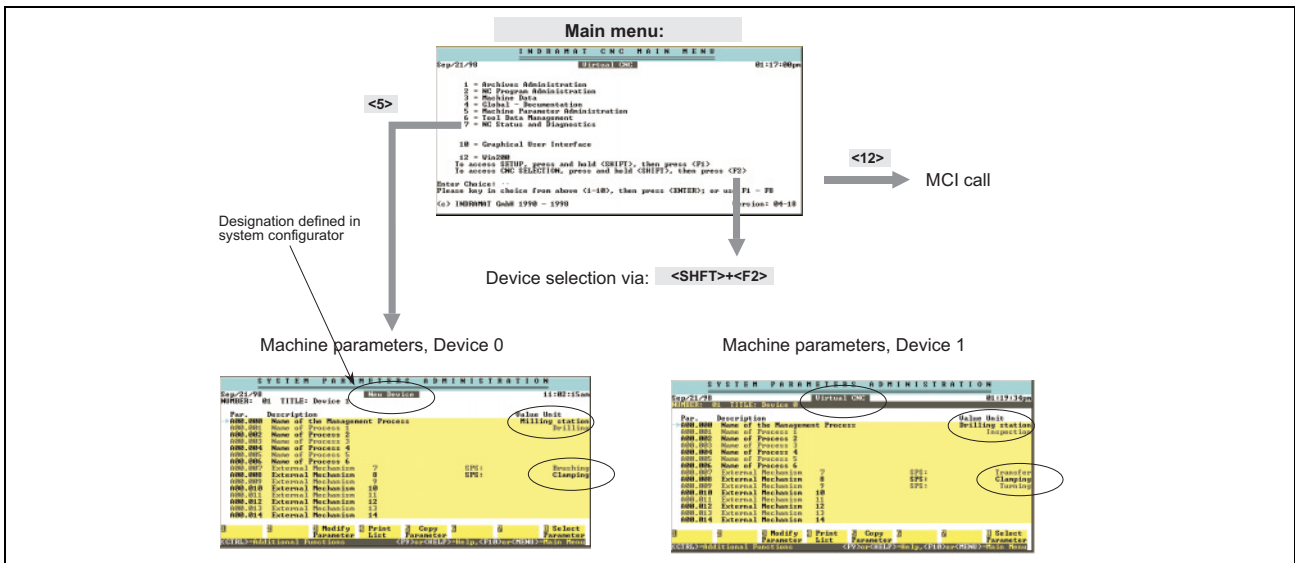

Fig. 1-3: Definition of the machine parameters
To complete configuration of the 'Machine system' example, the machine parameters must be defined (Fig. 1-3 shows only the designations of the processes and the external mechanisms):
**Starting from the main menu** The MCI can be launched from the main menu of the MUI (see Fig. 1-3) by selecting 'Menu item 12'. You should key in <12> <Enter>.